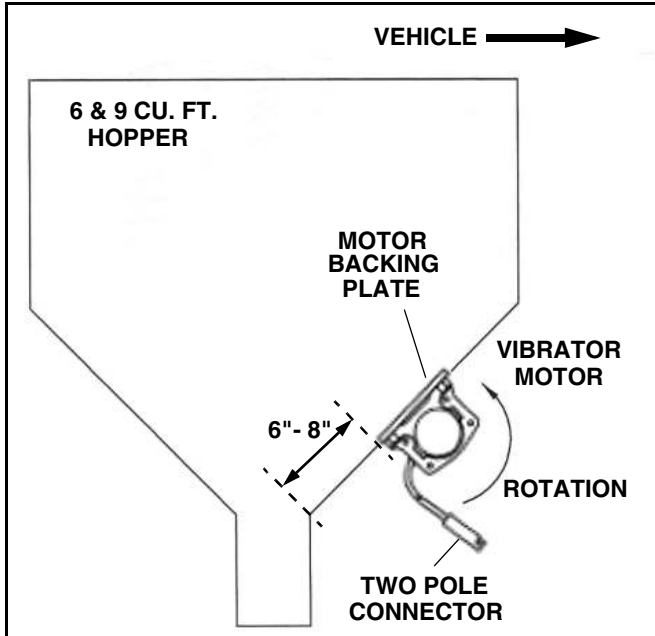

Figure 14
1. Position the vibrator approximately 6" to 8" from the top of the throat entry nearest the truck (See Figure 14).